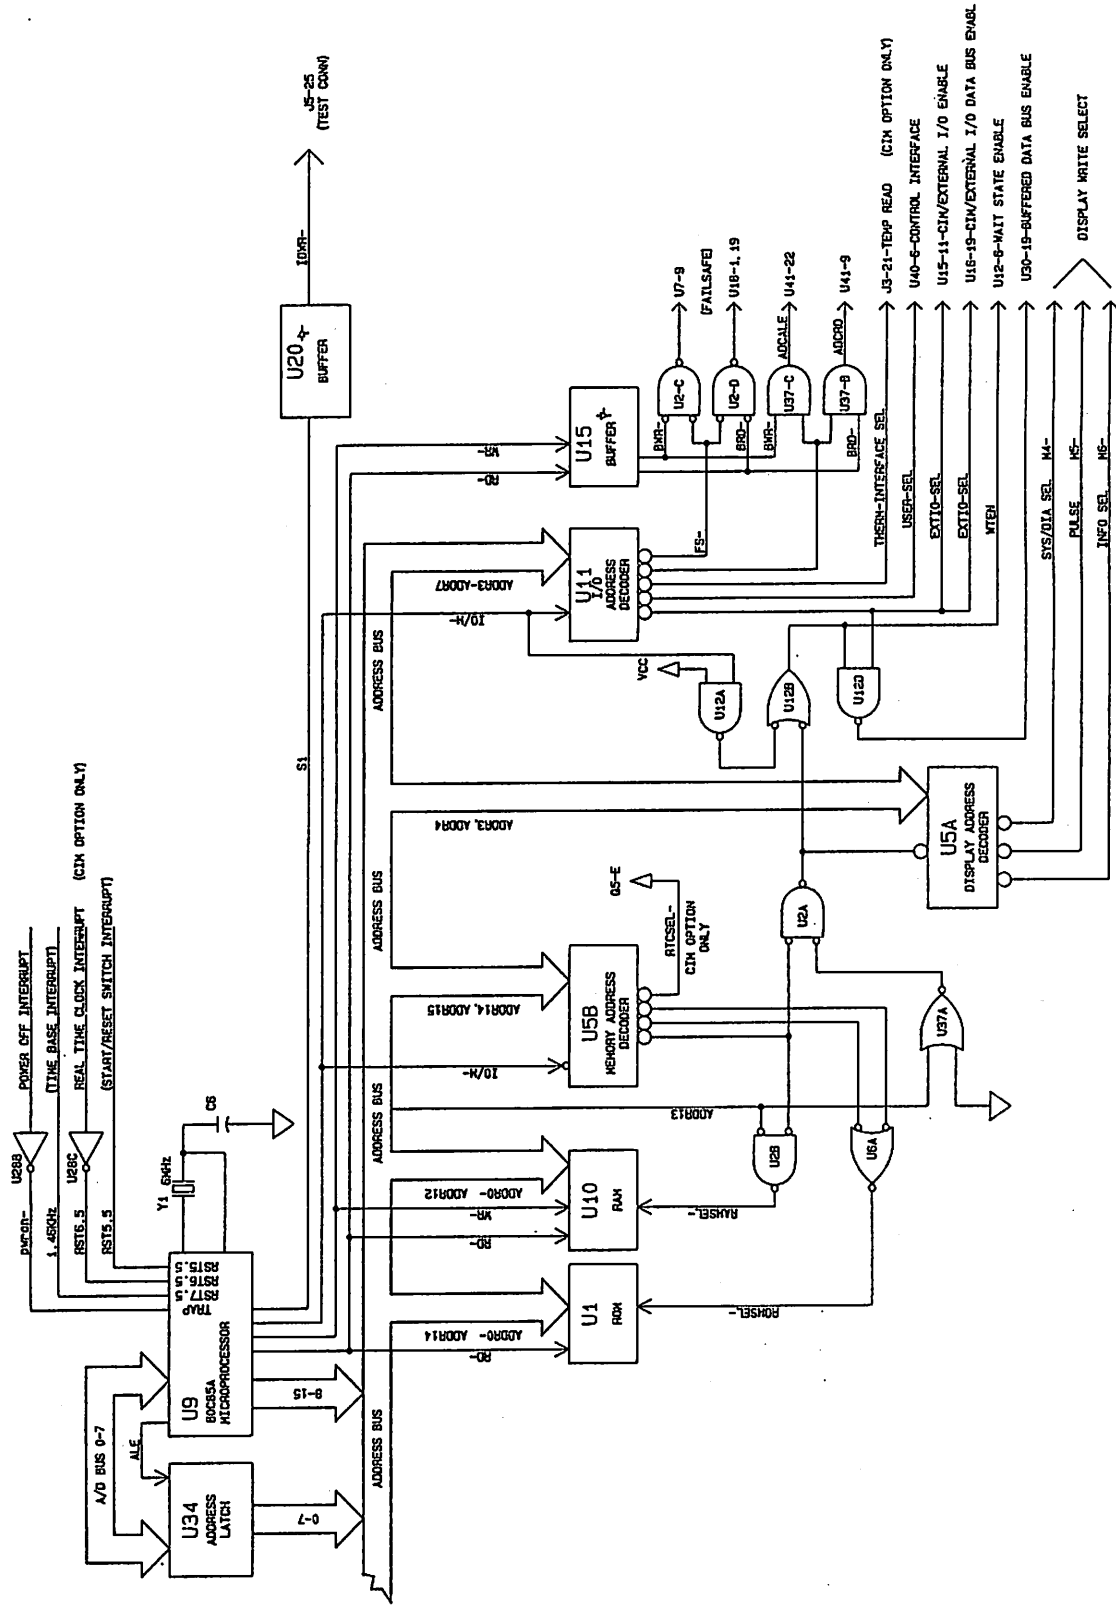

Figure 3-2. Block Diagram of Control and Address Bus Decoding
3.2.5 Address Bus (figure 3-2)
3.2.6 Control Bus (figure 3-2)
3.2.9 Interrupts (figure 3-2)